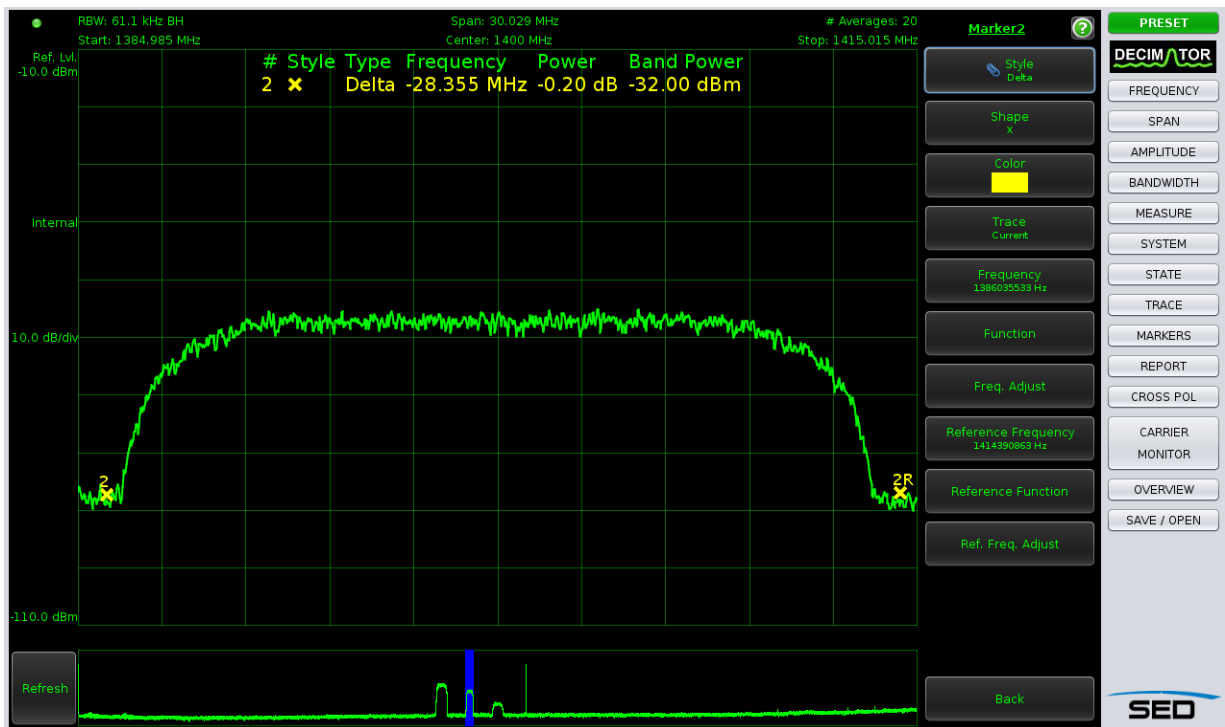

Figure 11 Modulated Carrier with Delta Markers
- Before adding our first measurement, let's get some help computing the Band Power for the modulated carrier. We will use a Delta marker to help us do this. Click the **MARKERS** button, then **Marker 2**, click the **Style** menu item and select **Delta**. Drag the markers around with the mouse to separate them, one on each edge of the carrier. The Band Power shown in Figure 11 in the Marker Legend is the total power in the carrier. We can use -32.00 dBm for our Nominal Power in this case.